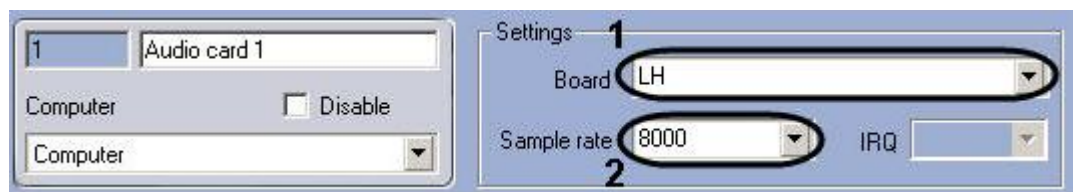

Figure 7.2-14 Configuring the audio card
1. Create the **Audio card** system object under the **Computer** object in the **Hardware** tab, set the **LH** type of the video capture card (Figure 7.2-14, 1).
2. Set the sample rate for audio signal processed in the **LH** (Figure 7.2-14, 2).